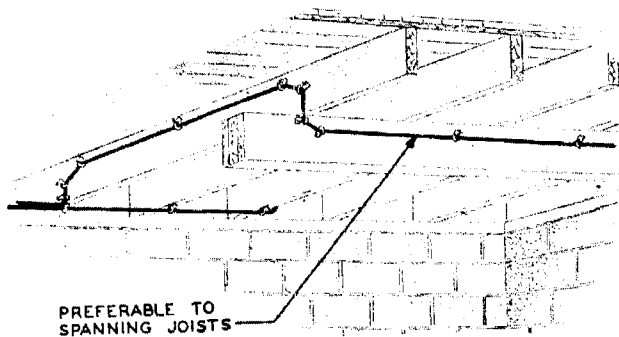

Fig. 11 – Spanning Joists
- If necessary to span joists, run wiring not more than 3 inches from wall (see Fig. 11).